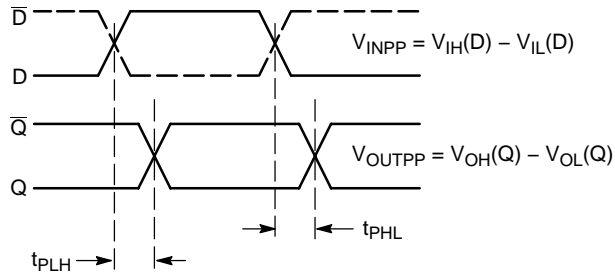

Figure 13. AC Reference Measurement
11. See Figure 13 differential measurement of  $t_{skew} = |t_{PLH} - t_{PHL}|$  for a nominal 50% differential clock input waveform @ 250 MHz.